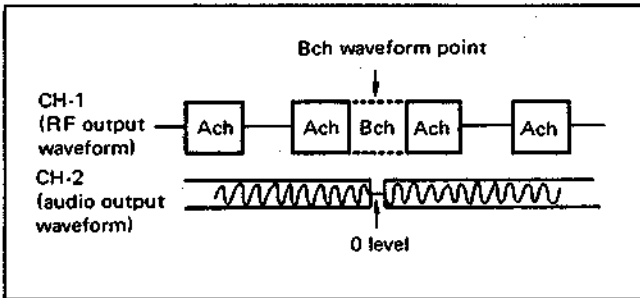
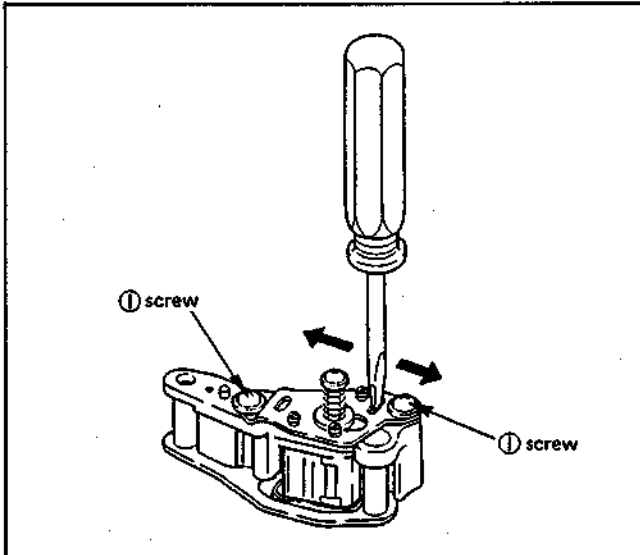

Fig. 4-26
Fig. 4-27
- (1) Connect the oscilloscope as follows:
- (2) Replay the tracking portion of the alignment tape (KR5-2H).
- (3) Turn the tracking control knob back and forth, and confirm that the output waveform level is maximum at the center click position, and that the 0 level of the audio signal is at the point where the RF output waveform Bch waveform appears, as shown in Fig. 4-26. If adjustment is necessary, proceed as follows.
As shown in Fig. 4-27, slide the ACE assembly with a screwdriver until it is in the position shown in Fig. 4-26 and the RF output waveform is maximum. Tighten the screws when this position is obtained.